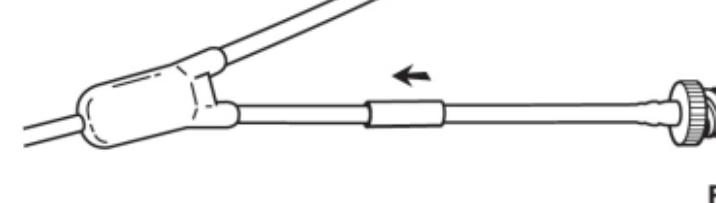

Fig. 15
6. Slide the sleeve over the junction. (Fig. 15)